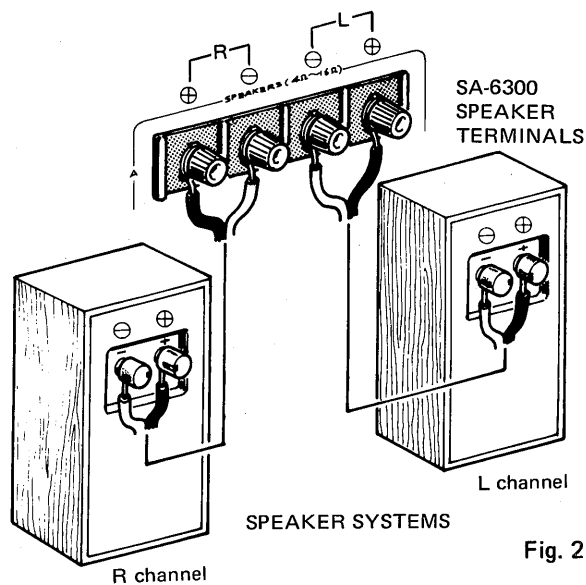

Fig. 2
- As shown in Fig. 2, connect the right channel (as viewed from the front) speaker to the R terminals, and the left channel speaker to the L terminals.